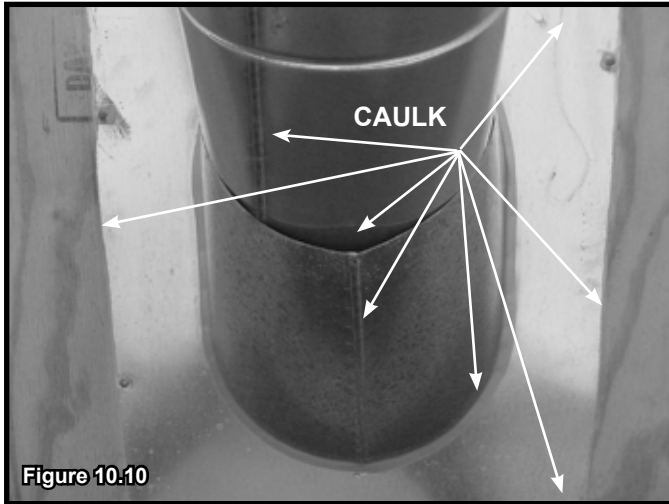

Figure 10.10
- Slide the roof flashing over the pipe sections extending through the roof as shown in Figure 10.10.